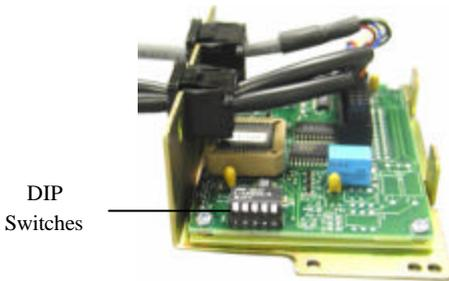

Figure 15. PAA – DIP-Switch Location
5. On PAA, set DIP Switches (**Figure 15**) to activate required functions specified in **Table 2** for your unit.